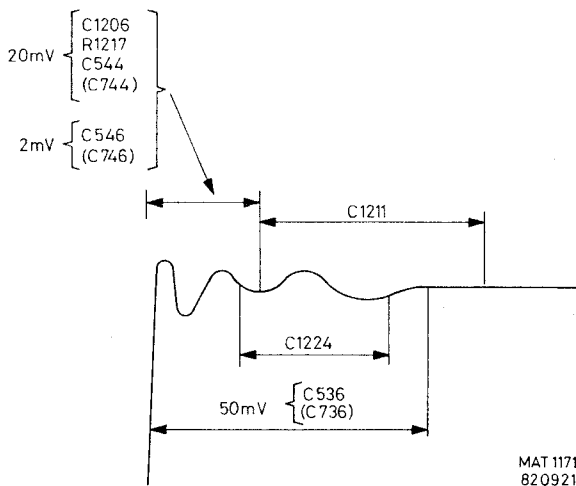

Fig. 5.6. Adjustment of HF square-wave response
- Apply to X2 (A) a square-wave signal at 120mV, frequency 1MHz and with a rise-time $\leq 1\text{ns}$.
- Using C1211 and C1244 (fig. 5.2.) adjust the square-wave response as straight as possible (see fig. 5.6.).
- Using C1206, R1217 and C544 (fig. 5.2.) adjust the square-wave response as straight as possible (fig. 5.6.).
- Apply to X2 (A) a square-wave signal of 300mV, frequency 1MHz and with a rise-time \leq 1ns.
- Using C536 (fig. 5.2.) adjust the square-wave response as straight as possible (see fig. 5.6.).
- Apply (via a 20dB attenuator, if generator output voltage is too high) to X2 (A) a square-wave signal of 12mV, frequency 1MHz and with a rise-time \leq 1ns.
- Using C546 (fig. 5.2.) adjust the square-wave response as straight as possible (fig. 5.6.).
- Apply to X4 (B) a square-wave signal of 120mV, frequency 1MHz and with a rise-time \leq 1ns.
- Using C744 (fig. 5.2.) adjust the square-wave response as straight as possible (fig. 5.6.).
- Apply to X4 (B) a square-wave signal of 300mV, frequency 1MHz and with a rise-time \leq 1ns.
- Using C736 (fig. 5.2.) adjust the square-wave response as straight as possible (see fig. 5.6.).
- Apply to X4 (B) a square-wave signal of 12mV, frequency 1MHz and with a rise-time \leq 1ns (via a 20dB attenuator, if generator output voltage is too high).
- Adjust with C746 (fig. 5.2.) the square-wave response as straight as possible (fig. 5.6.).
5.5.5.5. Square-wave response channel A (B) invert
- Depress A (B) of S1.
- Depress A (B) of S23.
- Apply a square-wave signal, frequency 1MHz, rise-time \leq 1ns to input A (B).